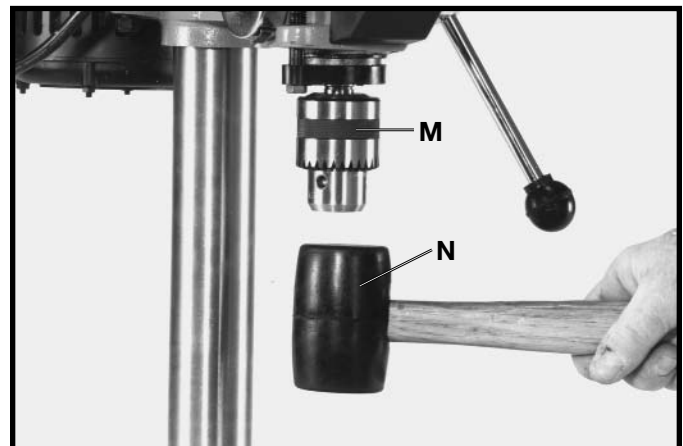

Fig. 10
7. **IMPORTANT:** Open the chuck jaws as wide as possible by turning the chuck sleeve (M) Fig. 10.
8. Holding chuck on taper of spindle, tap with a soft tip hammer (N) or a block of wood and hammer to set chuck, as shown in Fig. 10. **IMPORTANT:** To avoid damage to the chuck, **NEVER** drive the chuck onto the spindle with a metal hammer.